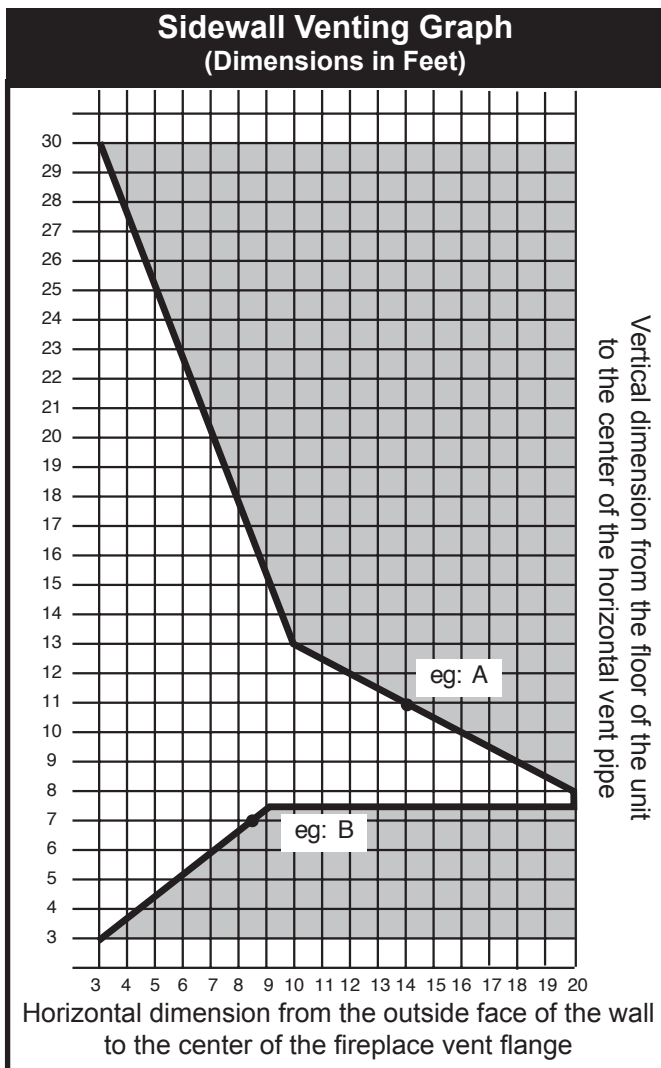

Fig. 12 Sidewall venting graph. (Dimensions in feet)
1. Determine the height of the center of the horizontal vent pipe exiting through the outer wall. Using this dimension on the Sidewall Vent Graph (Fig. 12), locate the point it intersects with the slanted graph line.
3. Select the indicated dimension, and position the fireplace in accordance with same. (Refer to examples Fig. 12)
The graph showing the relationship between vertical and horizontal side wall venting will help to determine the various vent lengths allowable. (Fig. 12)